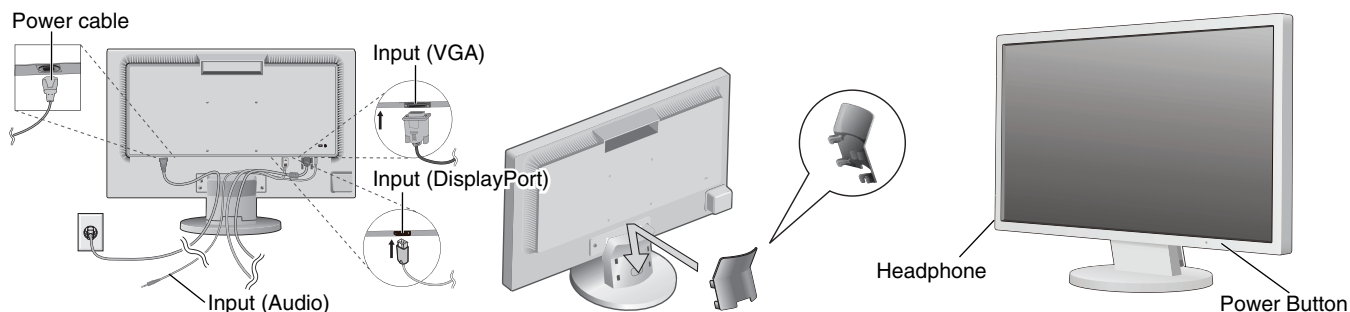
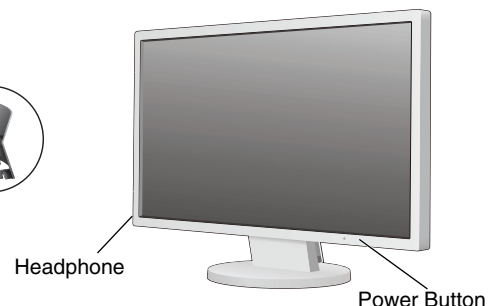

Figure B.1
Figure D.1
3. Connect the 15-pin mini D-SUB of the video signal cable and Audio Cable to the appropriate connector on the back of the monitor (**Figure B.1**). Connect the Headphone (not included) to the appropriate connector at the left of the monitor (**Figure D.1**).
5. Turn on the monitor with the bottom power button and the computer (**Figure D.1**).